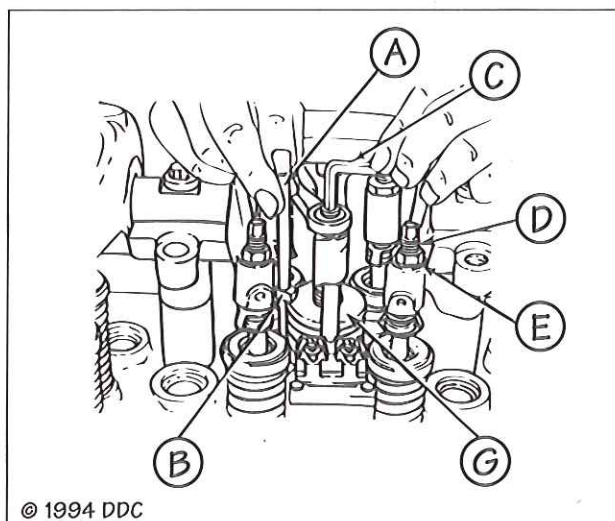

FIG. 61
12. Loosen the fuel injector rocker arm locknut (E, Fig. 61) and turn the adjusting set screw (D) until the extended part (flag) (B) of the gage will just pass over the top of the injector follower (G). An accurate "feel" should be developed. The objective will be to adjust all six injectors to the same feel.
13. Tighten the locknut to 35 lb.-ft. (47 N•m). Check the adjustment with the Height Gage (A) and, if necessary, readjust the set screw (D). Remove the Height Gage.